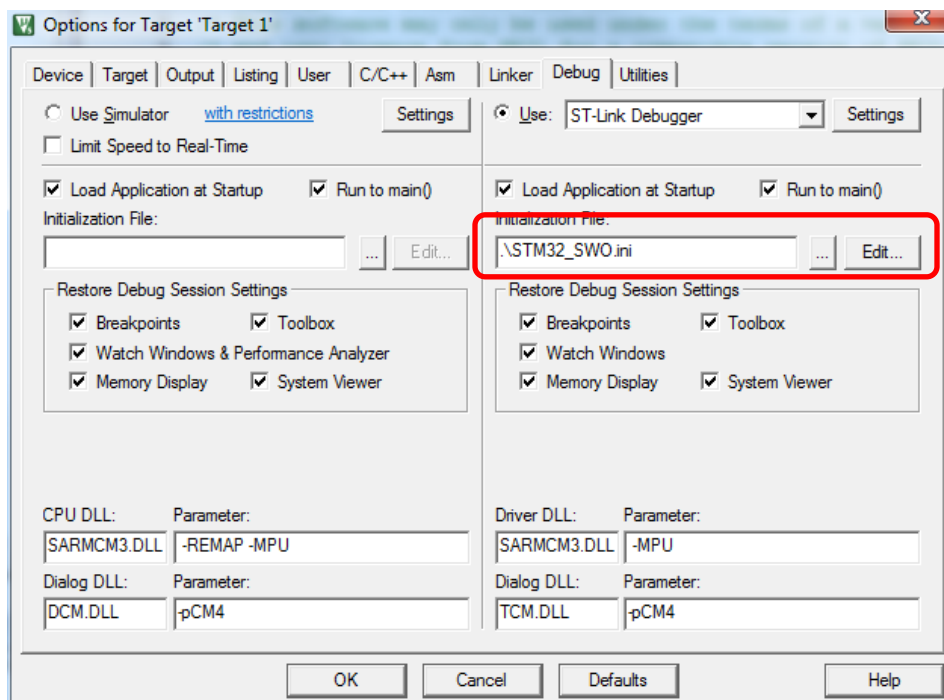

Figure 6. Debug initialization file configures SWV for the logic analyzer.
2. Create a debug initialization file (ex. *STM32_SWO.ini*) containing the following lines or add them to an existing debug initialization file. Enter that file name in the Debug tab as shown in Figure 6. This configures the STM32 SWV module and default is for SWV. Click OK to return to the main menu.